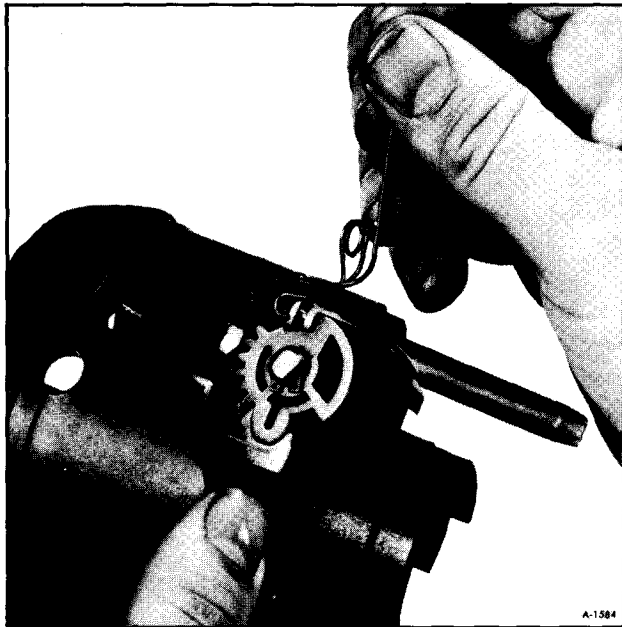

Figure 90—Removing Lock Bolt Spring
29. Remove lock bolt spring by removing spring retaining screw and moving spring clockwise to remove from bolt (figure 90).
5. Install lock bolt and engage with sector cam surface (figure 90).
6. Install rack and spring. (Replace shim if one was removed). Block tooth on rack to engage block tooth on sector (figure 90). Install external tilt release lever.